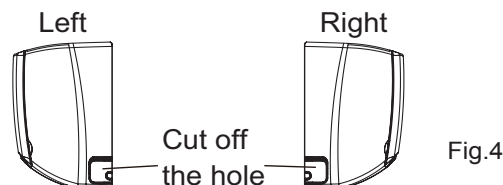

Fig.4
(2) When selecting leading out the pipe from left or right, please cut off the corresponding hole on the bottom case.(As show in Fig.4)